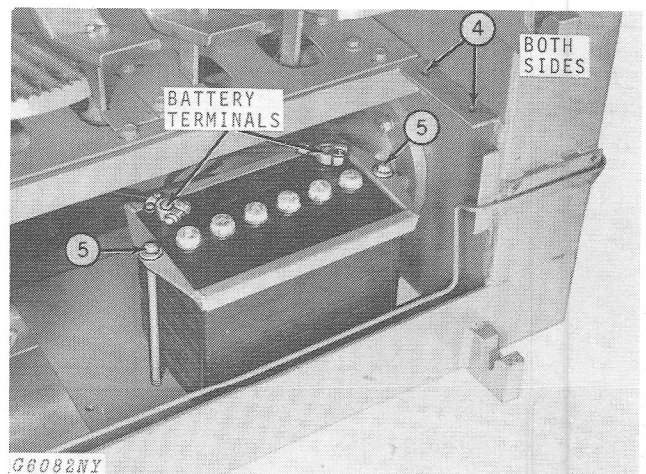

Fig. 3-Removal of Battery
4. Remove the front service panel by removing four cap screws (Fig. 3).